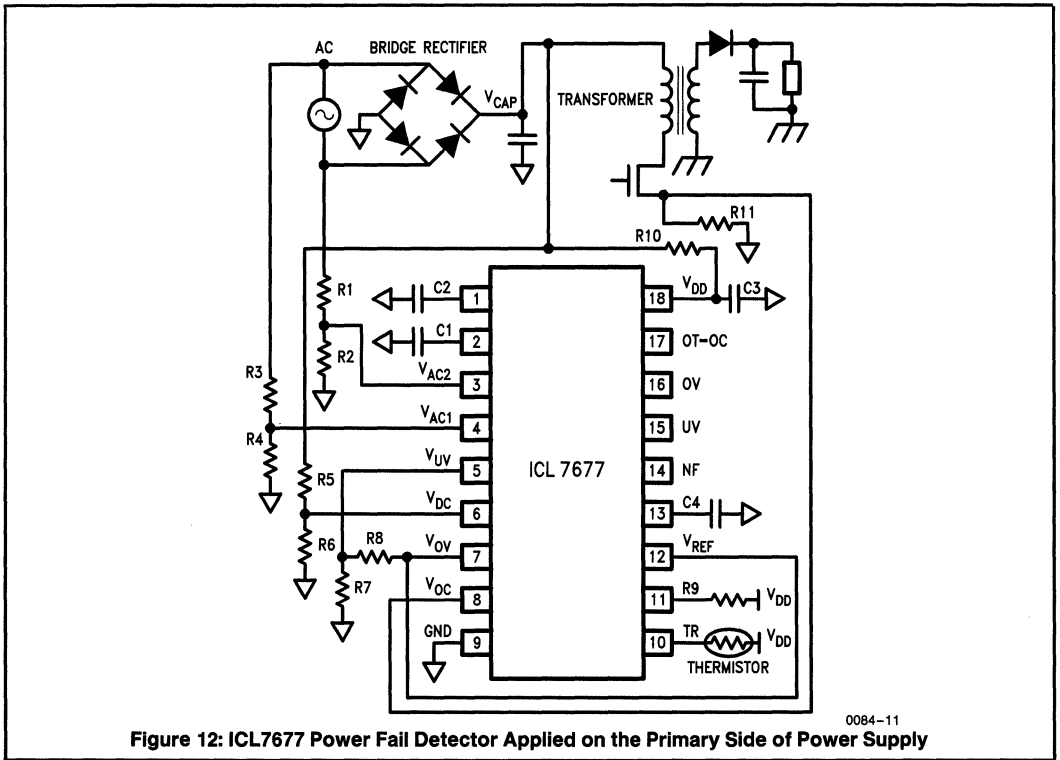

Figure 12: ICL7677 Power Fail Detector Applied on the Primary Side of Power Supply
The user may detect excessive current through the primary transformer winding in Figure 12 by placing a sensing resistor in the source or emitter of the switching transistor. The chip threshold at pin 8 is 225mV ±20mV. Similarly, it can be used on the secondary side as shown in Figure 15 in the application section.
3. System is connected as shown in Figure 12.
Figure 12 shows a primary side power fail detector implementation.